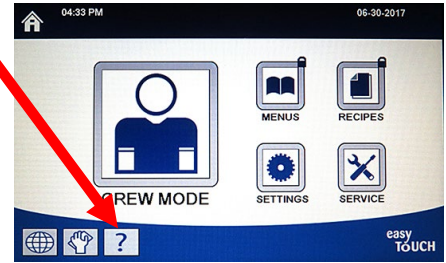

Figure 37
3. Press the ? button (see Figure 37).